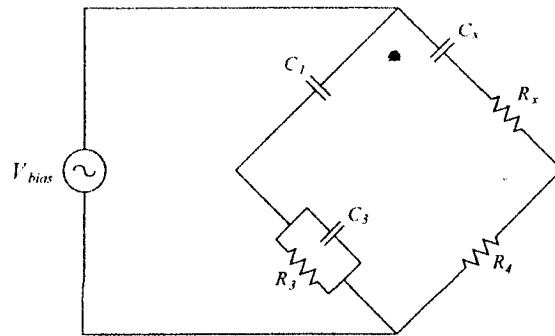

fig 5. Schering capacitance bridge
a) Figure 5 illustrates the arrangement for a Schering capacitance bridge. Derive the following balance conditions: (12 marks)